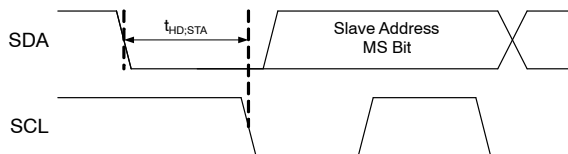

Figure 19. START Bit
Each bus transaction begins and ends with SDA and SCL HIGH. A transaction begins with a START condition, which is defined as SDA transitioning from 1 to 0 with SCL HIGH, as shown in Figure 19.
The protocols for High-Speed (HS), Low-Speed (LS), and Fast-Speed (FS) Modes are identical; except the bus speed for HS Mode is 3.4 MHz. HS Mode is entered when the bus master sends the HS master code 00001XXX after a START condition (Figure 19). The master code is sent in Fast or Fast-Plus Mode (less than 1 MHz clock); slaves do not ACK this transmission.
S	START, see Figure 19